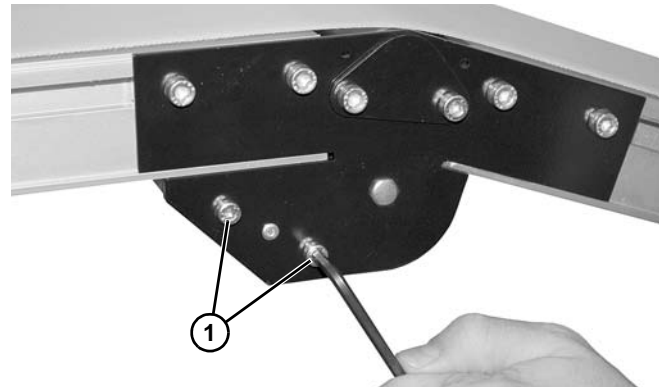

Figure 53
1. Remove screws (**Figure 53, item 1**) on both sides of conveyor.